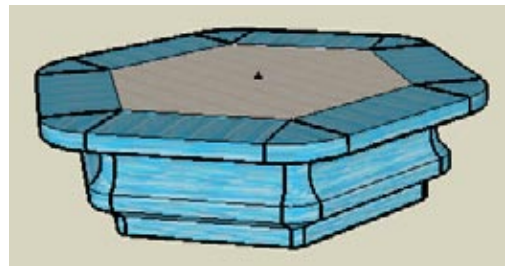

Figure 4-31
12. Close the group and rotate-copy it to the other five corners (Figure 4-31).